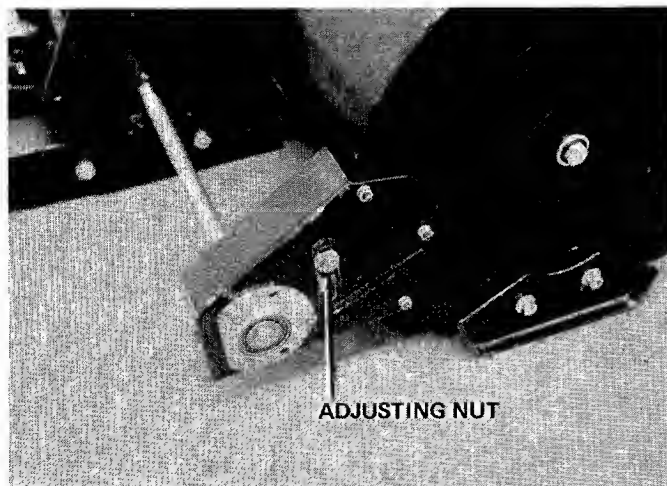

FIGURE 29
1. Disengage snow thrower and loosen the adjusting nut 2 or 3 complete turns. See figure 29.